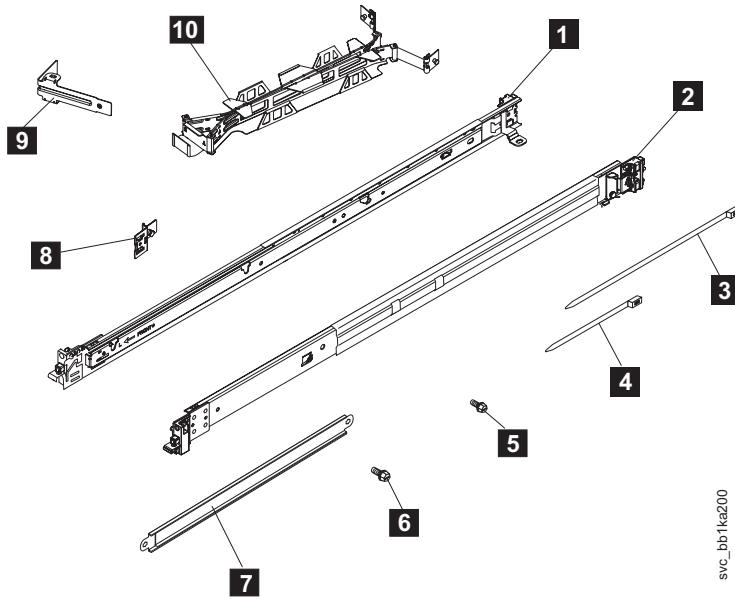

Figure 20. SAN Volume Controller 2145-CF8 cable-management arm, support rails, and associated parts
Figure 20 on page 24 shows the items that you need to install the SAN Volume Controller 2145-CF8 node in a rack.
1. Verify that you have all the items that you need for installing the support rails and that you have identified the front of each rail, as shown in Figure 20 on page 24.
The parts involved in installing the cable-management arm are shown in Figure 20 on page 24.